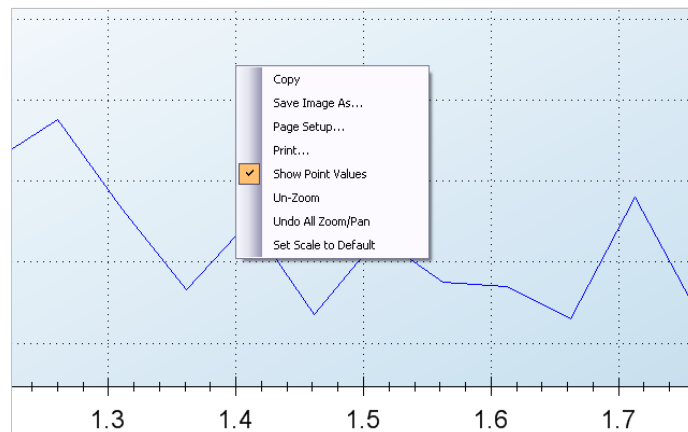

Figure 3–17 Graph tab; Un-Zoom menu
1. Right mouse click on the graph. A menu opens that displays the following options (refer to Figure 3–17):